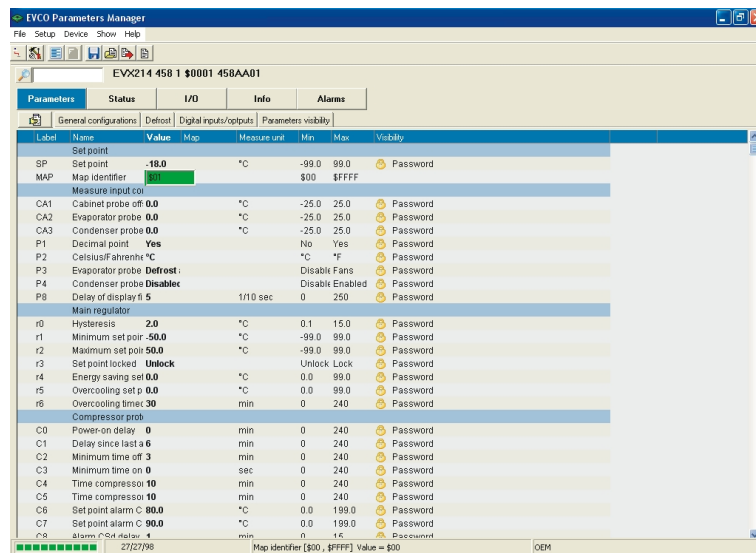

Fig. 23 - Modification of the value of the map identifier screen.
3. Enter a new value, made up from the \$ symbol followed by two numbers (for example \$01) in the text box (see Fig. 23).